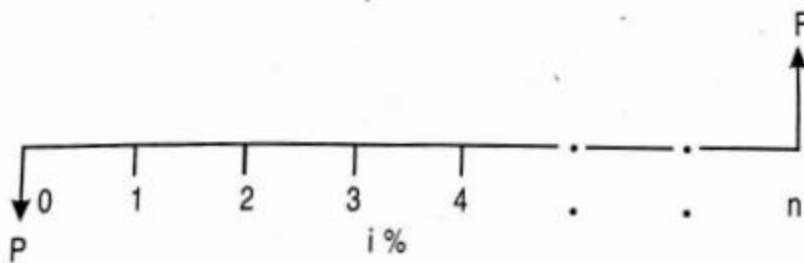

Fig. 4.3 : Cash flow diagram of single-payment compound amount
Here, the objective is to find the single future sum (F) of the initial payment (P) made at time 0 after n periods at an interest rate i compounded every period. The cash flow diagram of this situation is shown in Fig. 4.3